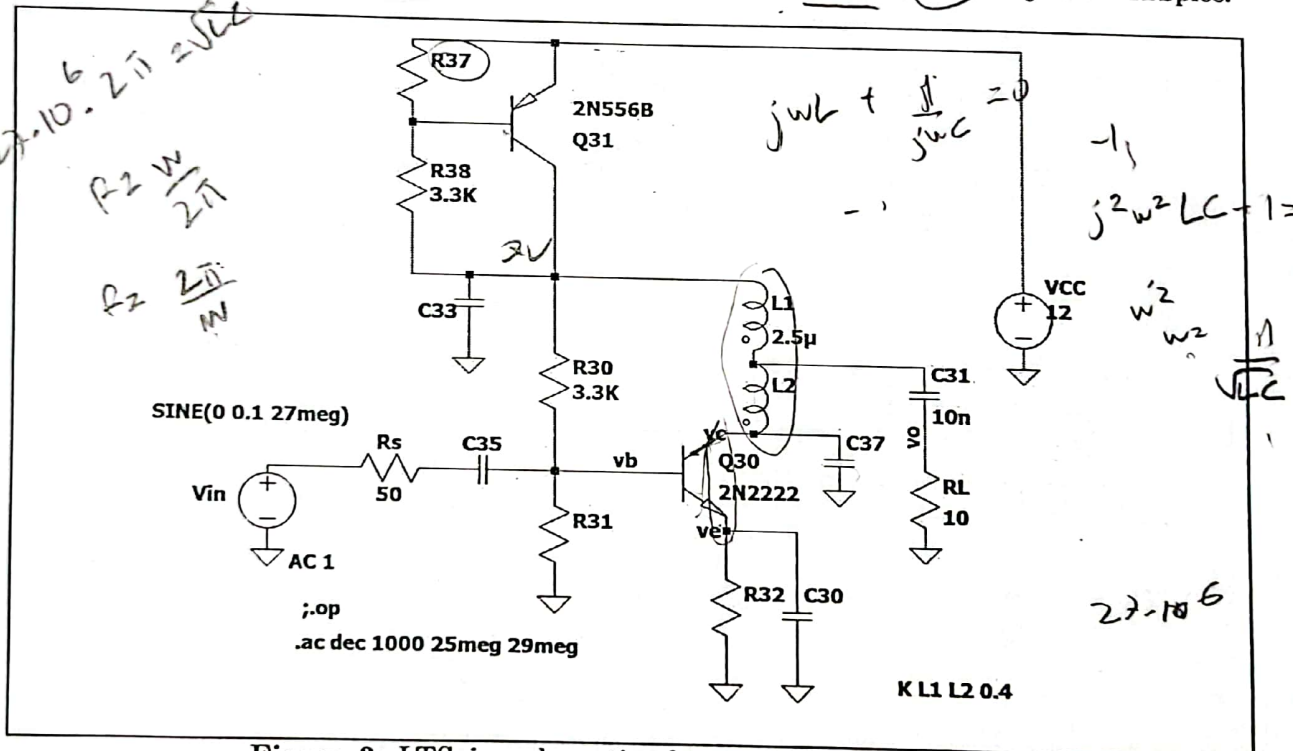

Figure 3: LTSpice schematic of transmitter RF amplifier.
4. Coupled inductors L_1 and L_2 along with C_{37} form an impedance transformation network that transforms R_L to a resistance R_i close to the optimal resistance, R_{opt} . Unfortunately, simple analytical expressions to find the component values do not exist. Instead, one can use LTSpice to determine the values. LTSpice already has the model for the transistor, 2N2222. Enter a schematic as shown in Fig. 3 using the calculated values of resistors and capacitors. Note that L_1 and L_2 are coupled inductors with "K L1 L2 0.4" statement (as SPICE directive) specifying the coupling coefficient of $k=0.4$ between them. Set L_1 value as $2.5\mu\text{H}$. The transformation ratio can be found using AC analysis in LTSpice.